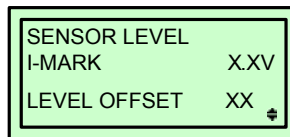

Figure 6-12, Level Offset Menu Screen
- 2 Using the printer's operator panel, access the Service Mode and then proceed to the Level Offset menu screen (Figure 6-12).